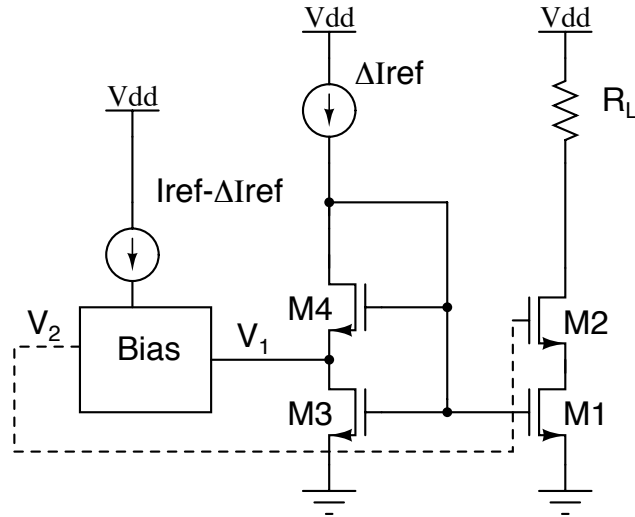

Figure 10: Current Mirror Configuration 4
- Additional credit:** Find out the smallest the gate voltages of M1 and M2 for cascode configuration. To obtain these gate voltages, we use a current mirror configuration shown in Fig10. Calculate the V_1 and V_2 shown in Fig10. Replace the Bias block with an appropriate transistor realization. Size the transistors properly to get 1% accuracy from this current mirror for $V_{GS} - V_{th} = 200 \text{ mV}$, $I_{ref} = 1 \text{ mA}$ and $R_L = 500\Omega$.